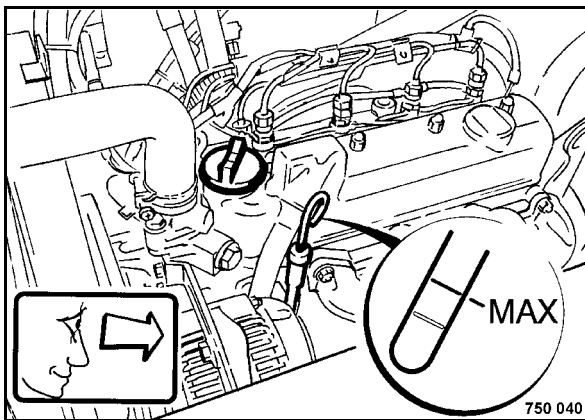

Fig. 89
- Pull the dipstick (Fig. 89) out, wipe it off with a lint-free, clean cloth and reinsert it until it bottoms.